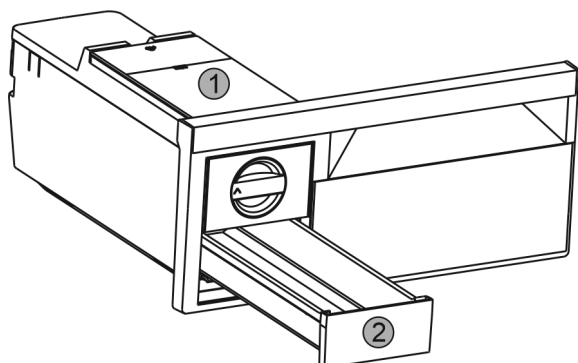

Fig. 39
- Take out the water tank Fig. 39 (1) and ice cube drawer Fig. 39 (2).